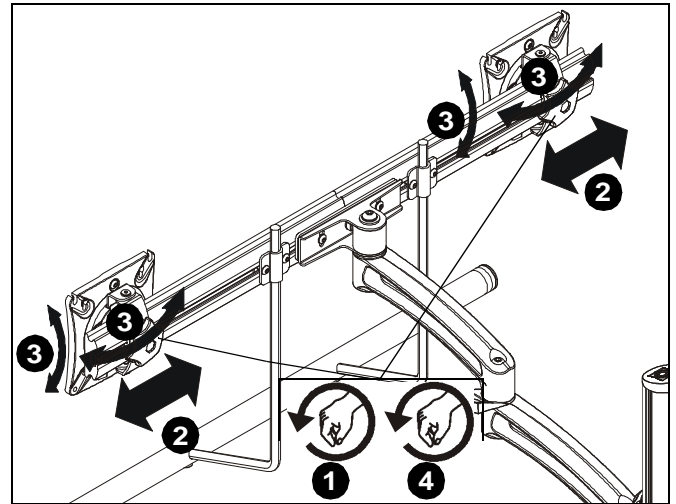

Figure 21
1. Loosen knobs securing faceplates to array. (See Figure 21)
2. Slide displays laterally on array to adjust lateral shift. (See Figure 21)
3. Adjust pitch and pivot position as desired. (See Figure 21)
4. Tighten knobs to secure faceplates in position. (See Figure 21)